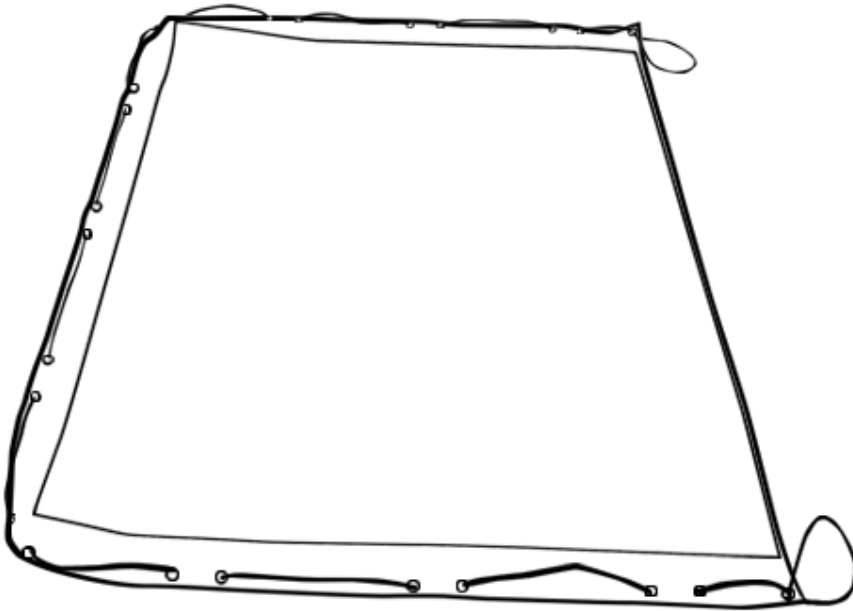

Figure 4
7. Thread rope through each of the eyelets and tie off behind the front eyelet on each side (Figure 4)